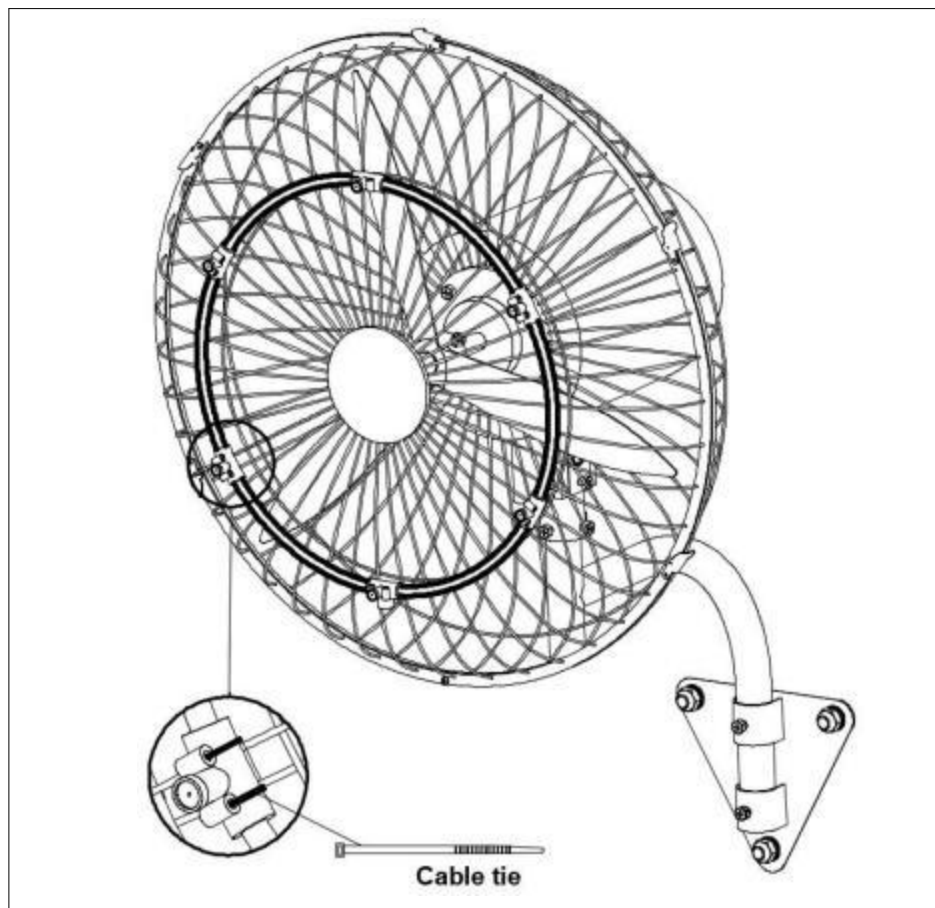

Fig.10.
1). Install the spray pipe on the front grille cover and fasten it with a cable tie. See the (Fig.10.)